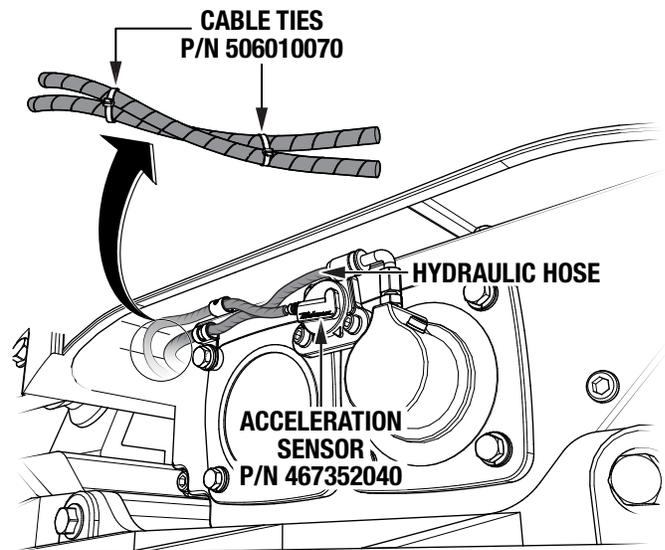

Figure 9. Cable Tie Placement (Acceleration Sensor and Hydraulic Hose)
- Secure the acceleration sensor cable (P/N 467352040) to the hydraulic hose with two cable ties (P/N 506010070). See Figure 9.